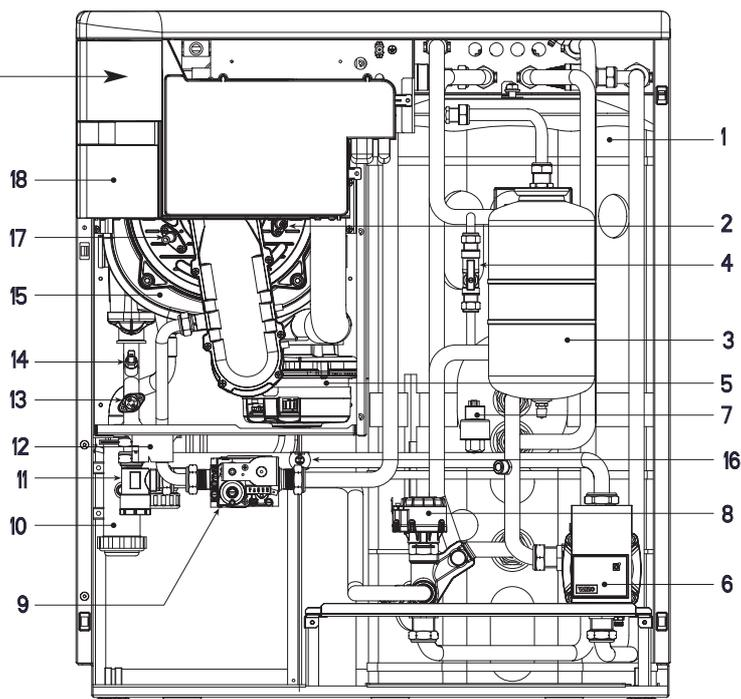

Abb. 3/a
1.5.3 ATLANTIS HM 30/110 ErP (Abb. 3/b)